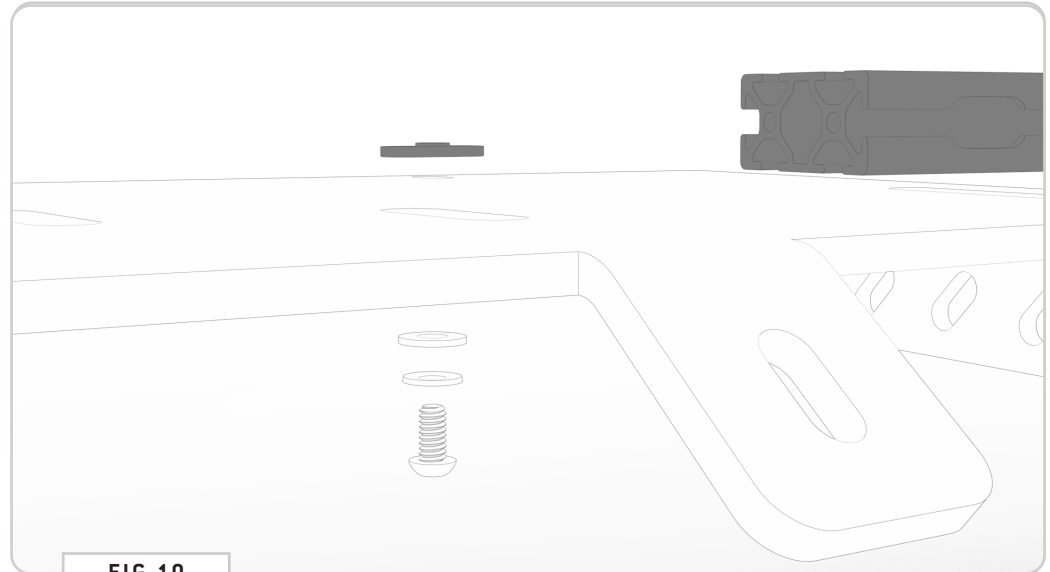

FIG 10
4.1 Crossbar Fairing Bracket: Stack a 1/4-20" x 0.5 Button Head Screw, 1/4" Belleville Lock Washer and 1/4" Flat Washer as shown in FIG 10 and insert into the six available front holes of the **Crossbar Fairing Bracket**. Loosely assemble using a **T-Nut**. You'll only want to screw the **T-Nuts** on a little in order to provide clearance for the next step.